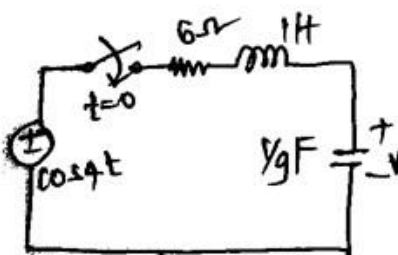

fig 7.1
6. Determine the current expression $V_o(t)$ in the circuit shown in fig.7.1, when the switch S is closed at $t=0$. The inductor is initially de-energized.